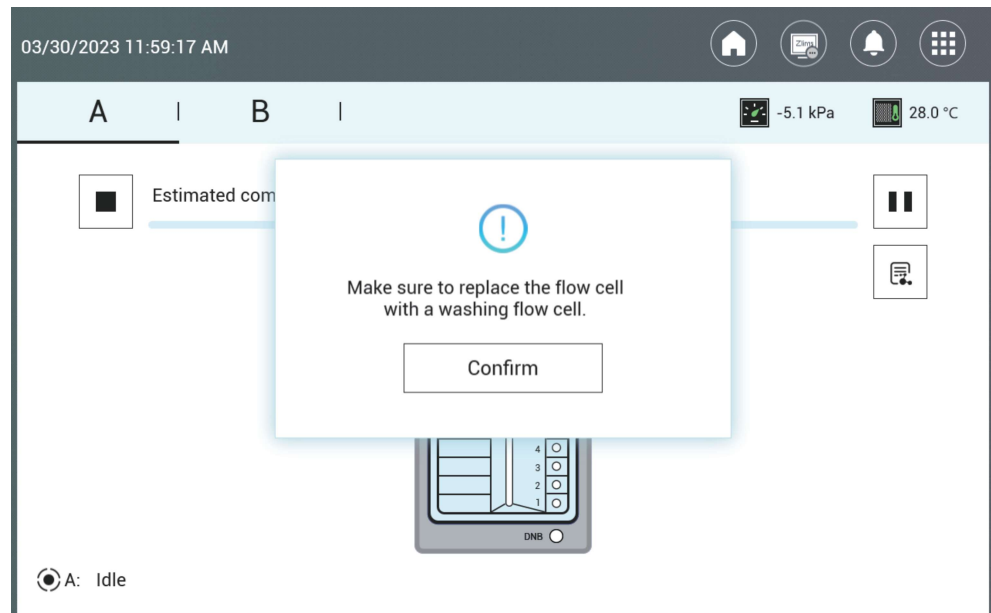

Figure 35 DL-T7RS flow cell loading complete status interface
16. The process takes around two hours. When the screen is shown as *Figure 35* on *Page 83*, the flow cell loading is complete.
18. When the loading is complete, install the washing flow cell onto the flow cell stage and press the flow cell attachment button. Close the flow cell compartment door. Select **Confirm** as shown in *Figure 35 on Page 83*.